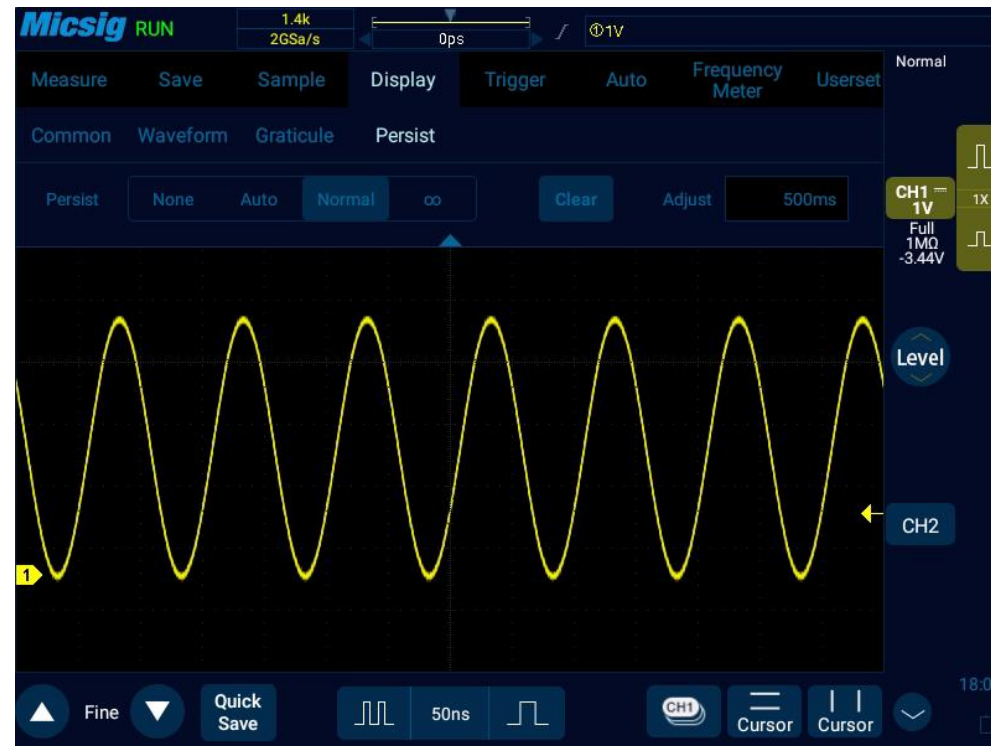

Figure 10-4 10MHz Sine Wave Variable Persist 500ms
- **Normal:** Normal - set the persist time — After selecting the variable persist, tap the box on the right of “Adjust” to pop up the persist time selection box (Figure 10-4) and set the persist time. It can be set between 10ms and 10s.